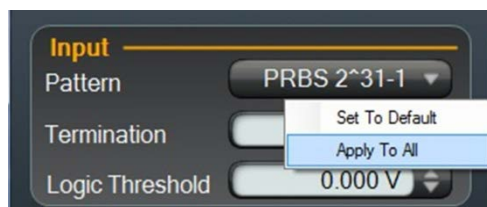

Figure 8. Apply pattern selection to all error detectors
15. Under the **Measurements** menu on the Main Screen, select **Multi-Channel BER** as shown in Figure 8.